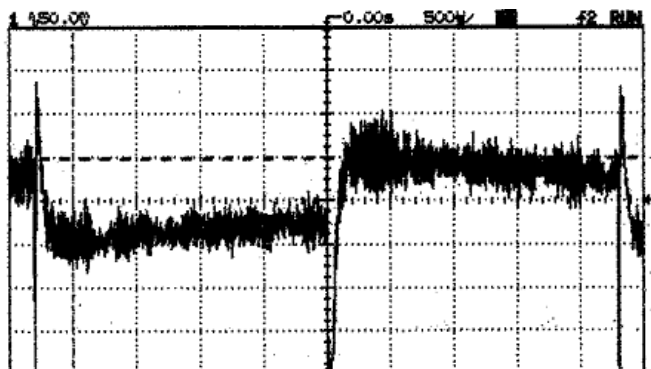

Figure 3-3 Example of an unacceptable waveform
- 6 Allow no more than 50 mV variance on the sensor offset step (i.e. from top-to-top or bottom-to-bottom of the waveform). Figure 3-3 shows an example of a High Gain output signal with an unacceptably high sensor offset setting.